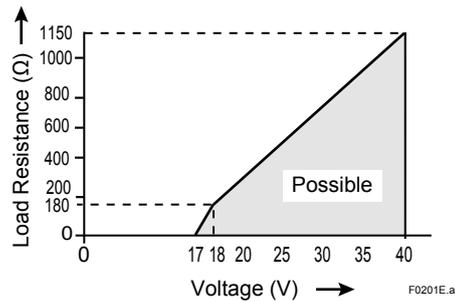

Fig.1 Supply voltage/ load diagram for the PH202G
PH202G: 17 to 40 V, see Fig. 1.
- For the PH202G, see Fig. 1.